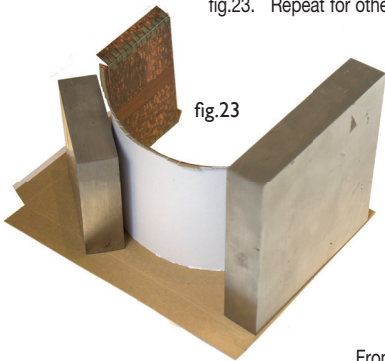

fig.23
- 3 Fix the lining into place with bridge outer wall by folding and glueing tabs around arch opening as illustrated in fig.23. Repeat for other wall.